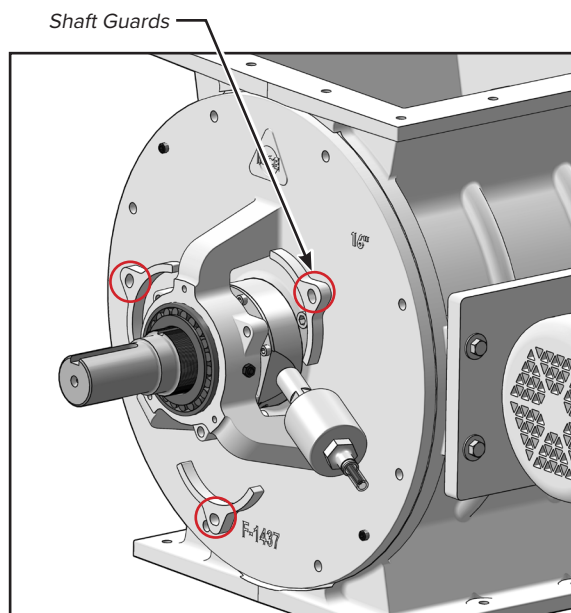

FIGURE 16
4. Remove shaft guards to gain access to set screws (figure 16).
20. Reinstall shaft guards (figure 16).